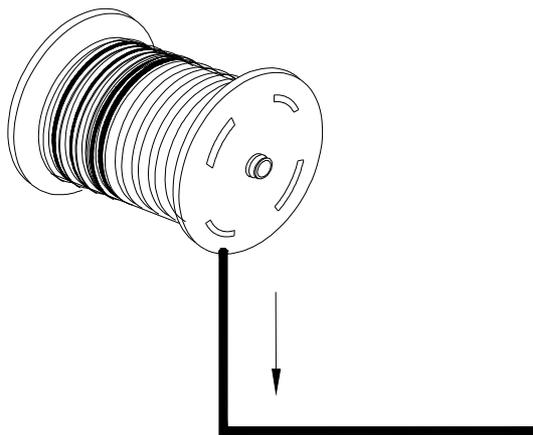

Fig. 10-2-2
- 4) Apply "Hoisting up" operation to enwind the rope on the drum for 4-10 circles .At the same time tension the rope properly.(Fig. 10-2-2).